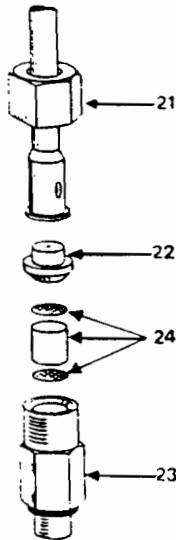

FIG. 7
Release union nut (21) Fig. 7. and lift off pilot feed tube.
Remove pilot injector (22) Fig. 7. from bottom of tube.
When re-assembling ensure that the pilot injector is correctly positioned (see Fig. 7.).
Remove filter body (23) Fig. 7. and gently tap out the filters (24) Fig. 7.